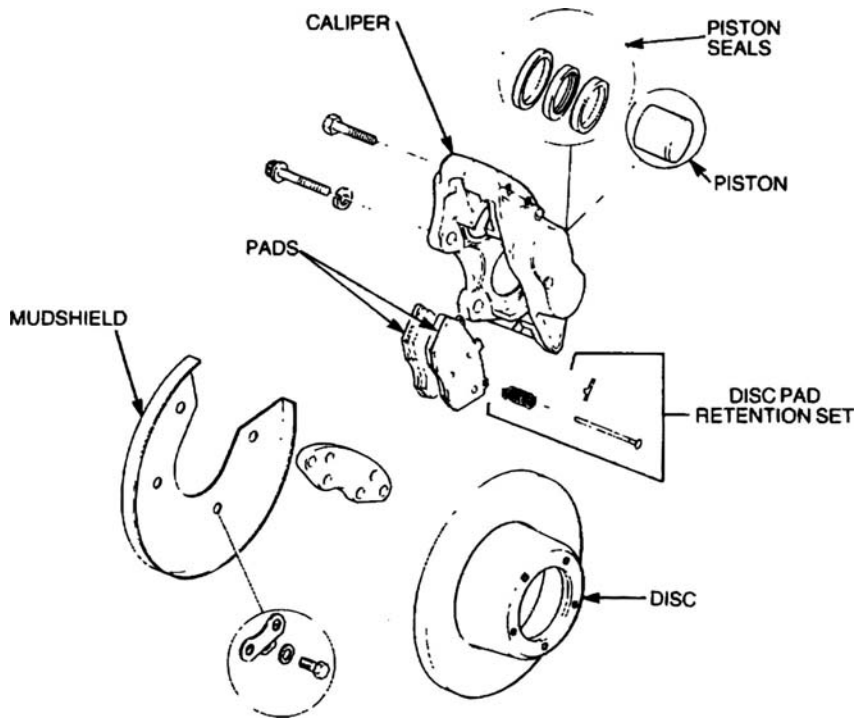

Figure 13 Rear Disc Brake Assembly – Exploded View
**43.** Figure 13 illustrates the various components of the rear wheel disc brake assembly.